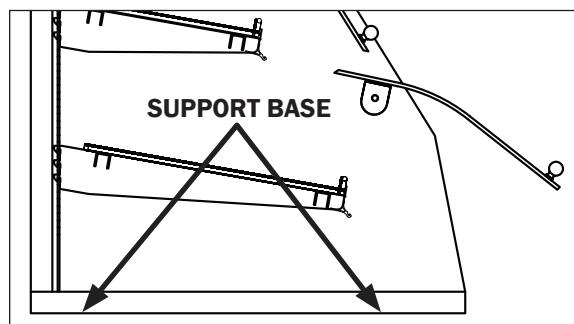

Fig. 2 Support Base
6. Locate base support positions (Fig. 2) and with a minimum two people, carefully lift the unit up and off the pallet. Place onto the surface it will be installed.